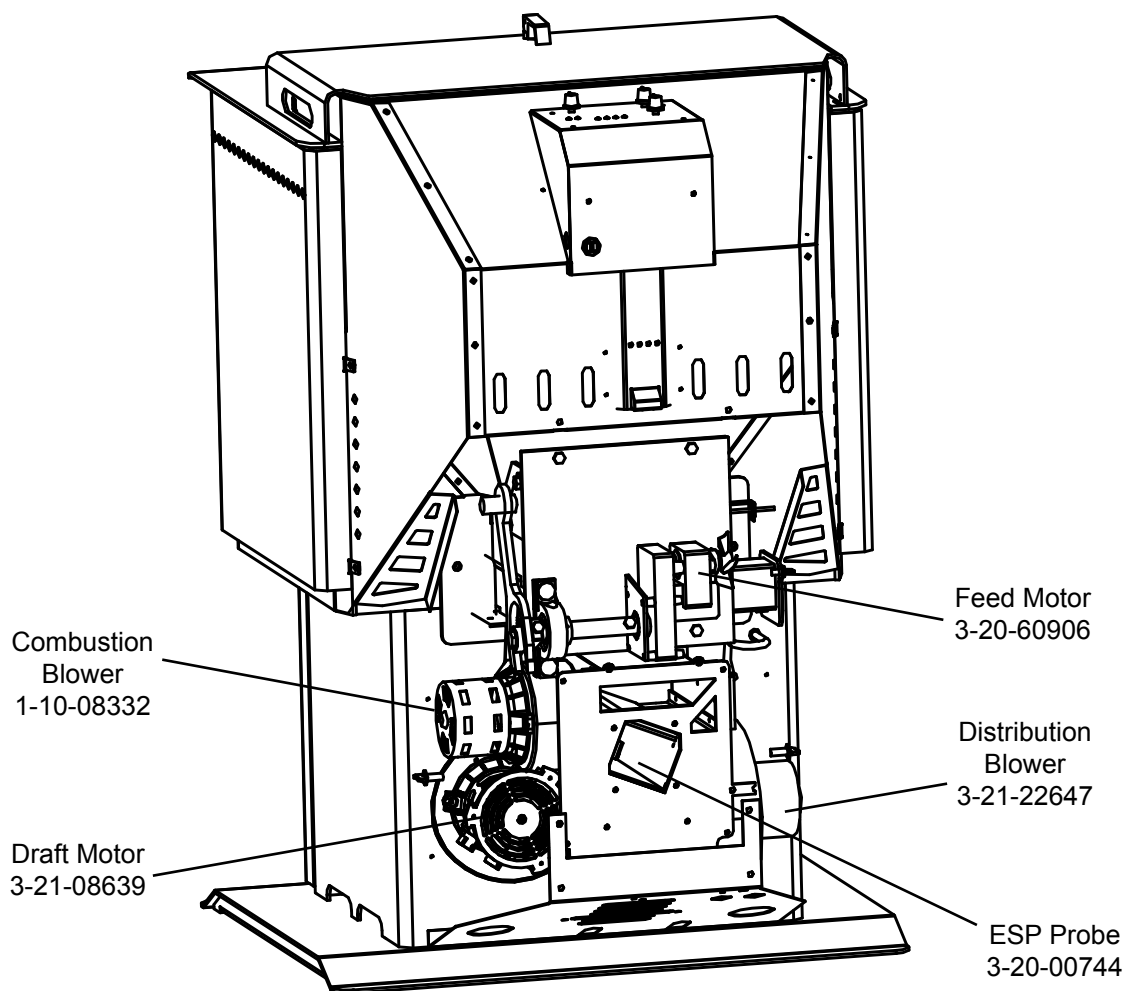

Fig. 28
4. The blower wheel, blower housing, and exhaust outlet can now be cleaned with a brush and vacuum cleaner. **NOTE: The ESP probe is located at the rear of the exhaust outlet shown in fig 28. Be careful not to damage the probe when cleaning.**